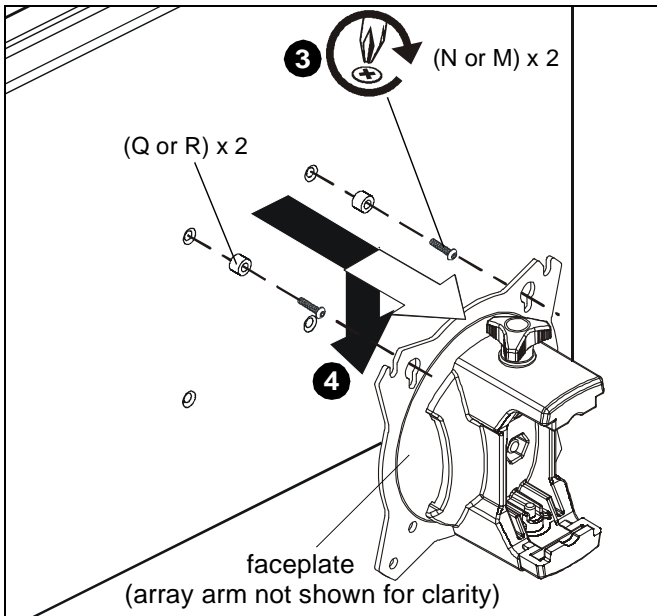

Figure 16
3. Using Phillips screwdriver, carefully install two selected screws (N or M) through selected spacers (Q or R) into the *upper* mounting holes on the display. Thread screws completely into display, then back out 3 complete turns. (See Figure 16)
4. Pick up and align display so that screws (N or M) (installed on the back of the display in the previous step) fit into the mounting holes on the faceplate. Lower the display firmly into place. (See Figure 16)